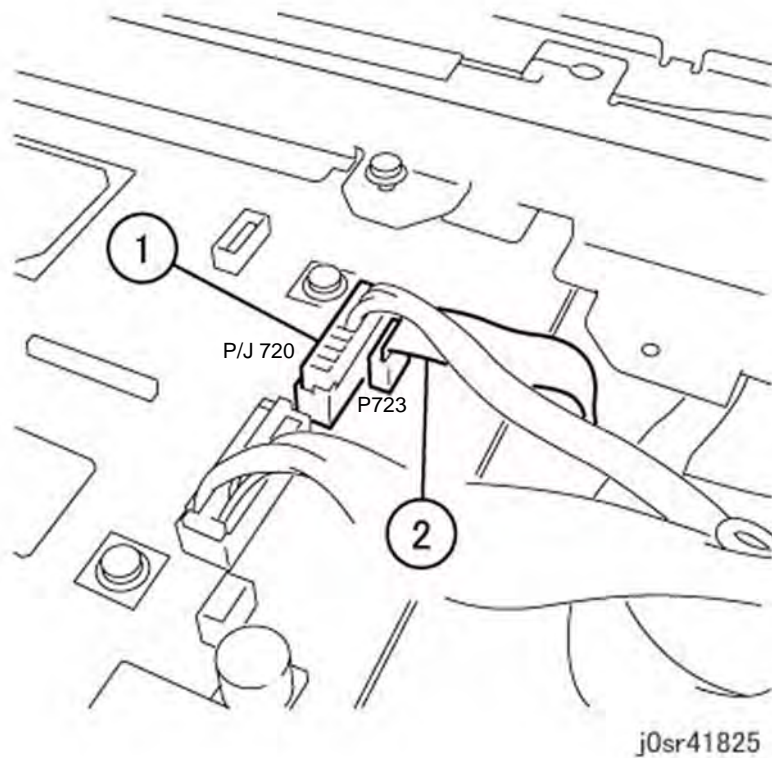

Figure 2 Disconnecting the harness connectors
5. Disconnect the harness connectors from the IIT IPS PWB (Figure 2).